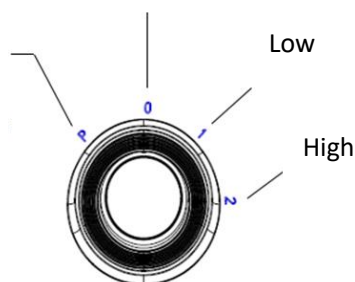

Fig. 2
5. Ensure the Speed Selector to "0" Position, then plug into power outlet and set Speed Selector to your desired setting. You can set Speed Selector to the "P" position if want to accelerate the process of blending. The detailed information is shown in below fig. 2